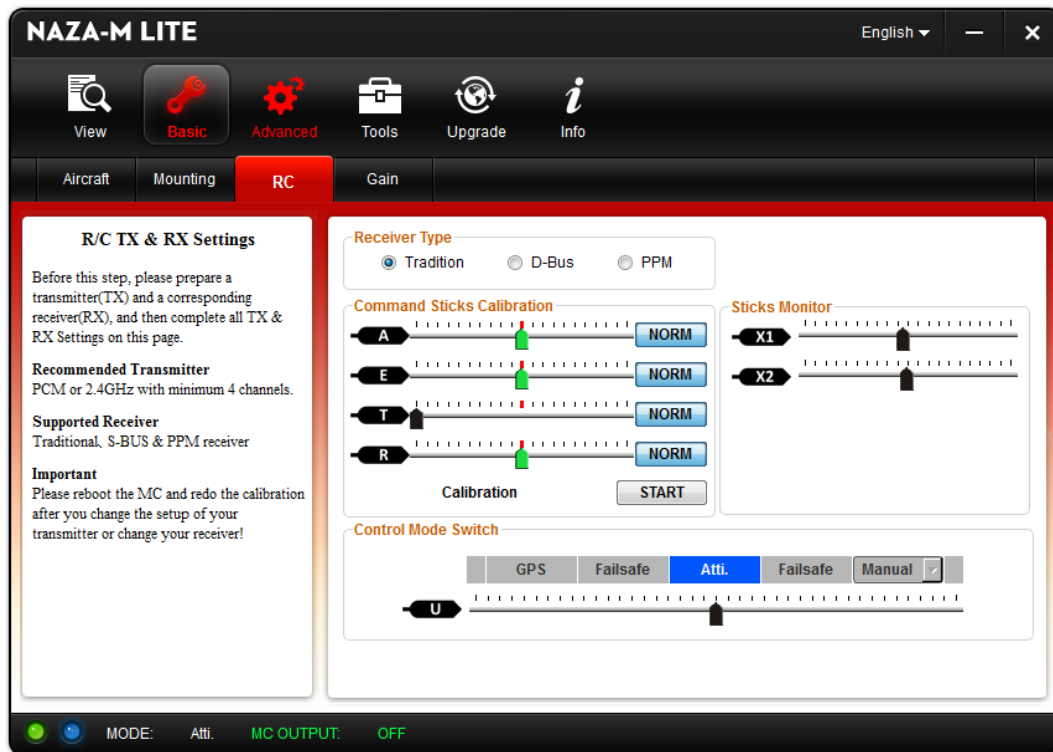

Figure 9: "RC" page.
- The “**RC**” settings determine the type of receiver, stick responsiveness, and control mode (see Figure 9).
- **Throttle (T)**: Slide left is craft down; slide right is craft up.
- **Rudder (R)**: Slide left is nose left; slide right is nose right.
- **Elevation (E)**: Slide left is craft back; slide right is craft forward.
- **Aileron (A)**: Slide left is craft left; slide right is craft right.